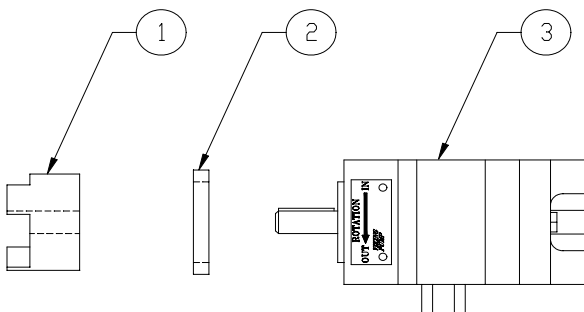

Figure 1
2. Figures 1 through 4 show the assembly of all the parts for mounting the pump to the HydraPak. Each item number on the following parts list can be matched with the item numbers shown on these figures. If any parts you have ordered are missing, call Reimann & Georger Corporation or your local distributor for assistance. Return any damaged parts to the place of purchase immediately. Do NOT substitute any components.
Refer to Figure 1.